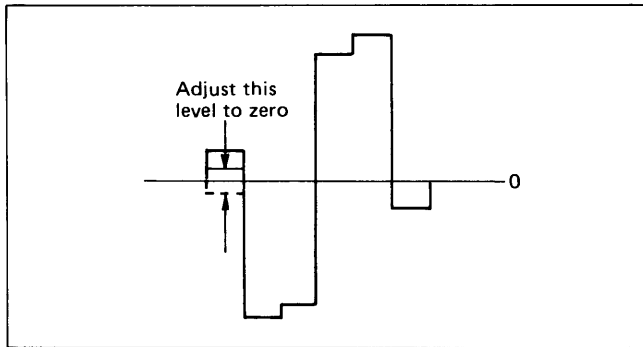

Fig. 34
- 4) Adjust PAL APL ADJ. VR (R4231) to achieve waveform shown in Fig. 34.